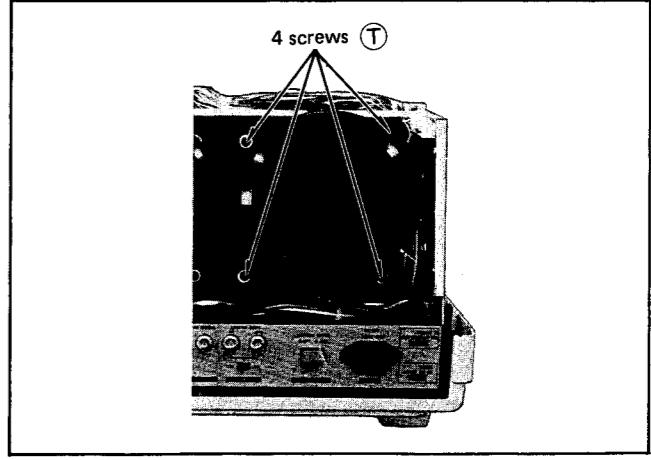

Fig. 14
- 8) Remove the 4 retaining screws **T** from the tube and draw it out shown in fig. 14.